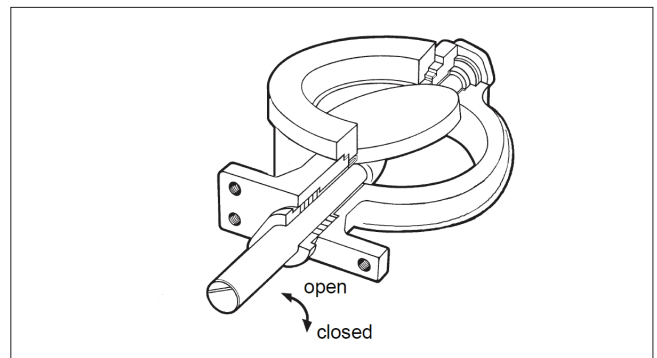

Fig. 15 Open and closed positions of the valve
The marking line parallel to the disc on the valve shaft head shows roughly the closed position of the disc (see Fig. 15). Pressure shocks can cause loosening of the pin connection between disc and shaft; consequently the shaft moves while the disc remains in place and this prevents full closing of the disc. If the reason for the leakage does not become apparent after doing the above, the valve must be disassembled for replacing the parts.
- Check the position between the seat ring and the disc. The valve closes clockwise (see Fig. 15).